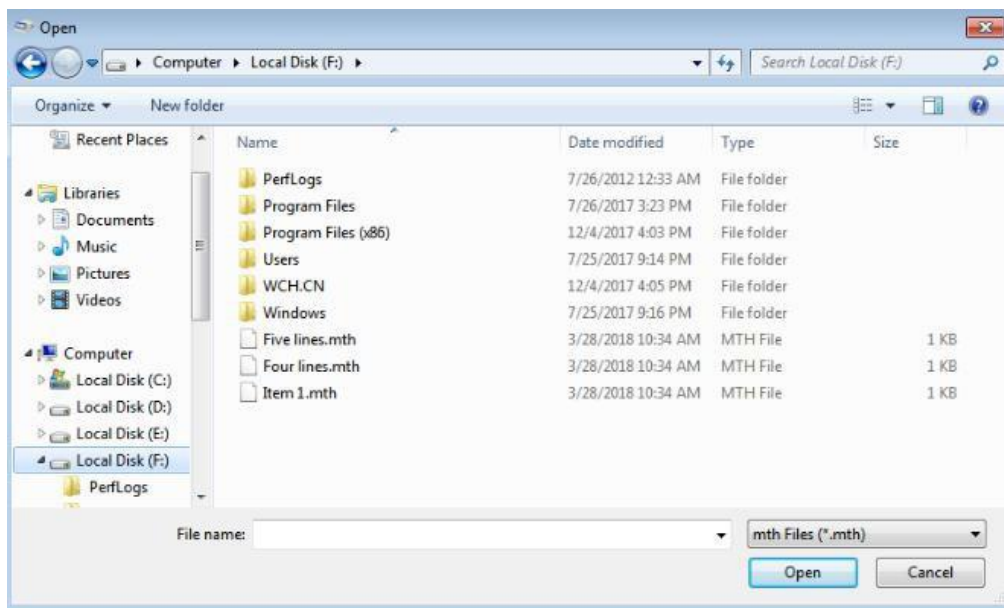

Fig 21 Import from local File
d. “**Import from local file**”: Import the test method (.mth) to software on PC for test reagent, in the same time this test method will import to the data base of software. The interface is as Figure 21.